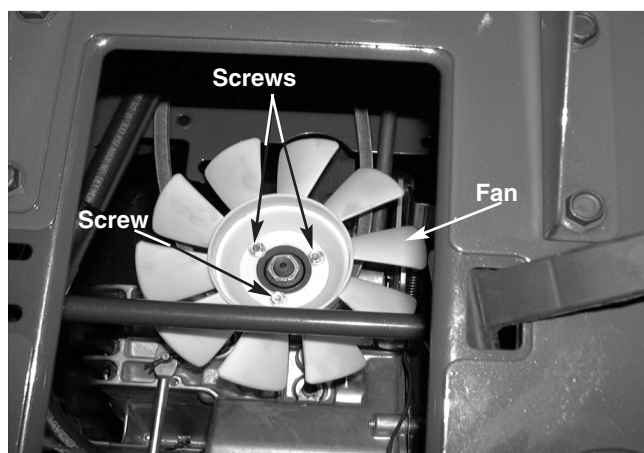

FIGURE 1.
9. Remove all three self tapping screws securing the hydrostatic fan to the hydrostatic drive pulley using a 5/16 socket. See figure 1.